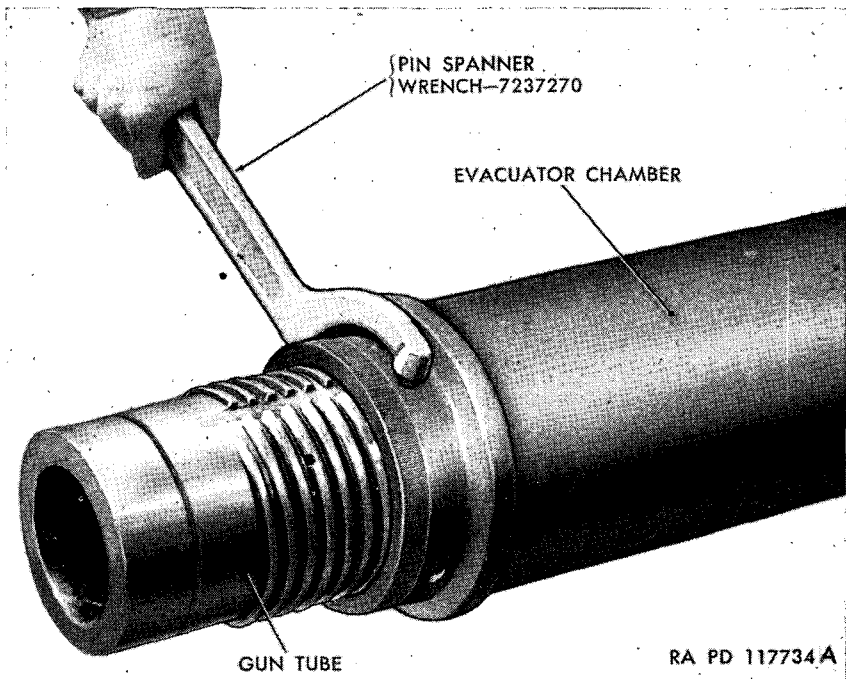

Figure 340. Removing bore evacuator chamber.
- (2) With the internally threaded head of the evacuator chamber forward, slide the evacuator chamber rearward over the muzzle end of the tube until the threads engage; then screw the chamber rearward as far as it will go without jamming (fig. 340).